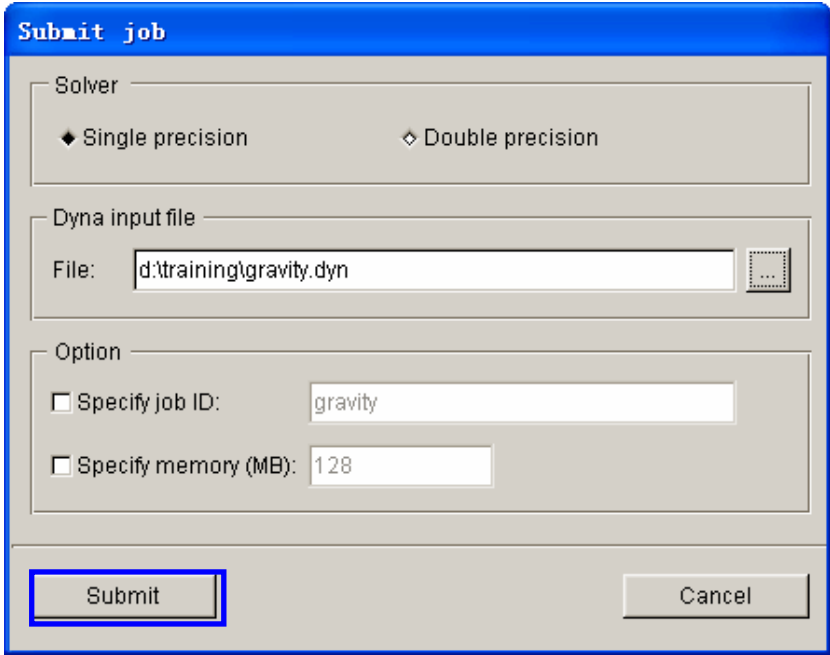

Figure 4.26 Submit job dialog box
- 3. The SUBMIT JOB dialog box illustrated in Figure 4.26 is displayed.